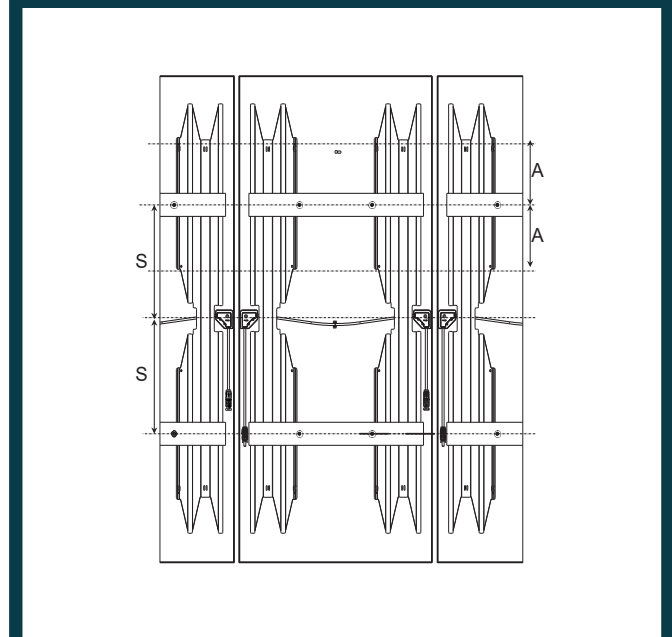

Fig. 2: Module rear side with „Hook-In” mounting including joining elements
- The optimal position of the SMART clamps is located in the middle of each mounting lip of the backrail and it is recommended for mounting by AVANCIS (figure 2). This provides the maximum stability against mechanical stresses. If there is a deviation from the middle position, the German general building approval Z-70.1-224 has to be considered regarding the mechanical resistance (at least in Germany). Further information can be obtained from AVANCIS or the DIBt ("Deutsches Institut für Bautechnik").
- The four clamps must be positioned symmetrically on the four mounting lips, both with respect to the center of the module parallel to its long edge and to its short edge (see figure 2 for an example).